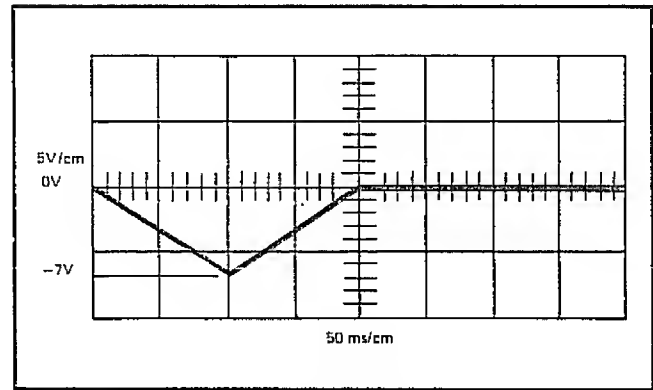

Figure 4-5. A/D INTEGRATOR OUTPUT
- e. Move the oscilloscope input to TP2. The scope presentation should be as shown in Figure 4-5.